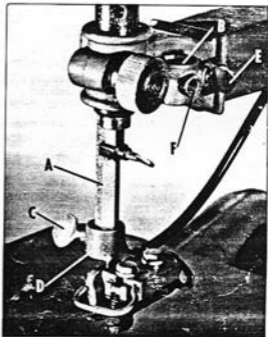

Fig. 15
When the work is fed from the side of the table, the hexagon guide post (A) Fig. 15, is moved from hexagon hole on left side of head to the hexagon hole (B) on the right side. This will automatically bring the blade guide to the proper position for side cutting. To move the blade guide, proceed as follows:
1. Remove thumb screw (C) Fig. 15, and remove blade guide assembly (D) from guide post (A).
2. Remove thumb screw (E) Fig. 15, and transfer guide post (A) from left side to hole (B) on right side of head.
3. Insert thumb screw (E) Fig. 15, in front tapped hole (F) to hold guide post in place. Only thumb screw (E) is transferred as lock pin is not required in front hole.
4. Replace blade guide assembly (D) to guide post (A), positioning guide assembly to allow work to be fed from the side and tighten thumb screw (C) Fig. 15, to hold blade guide assembly to guide post.